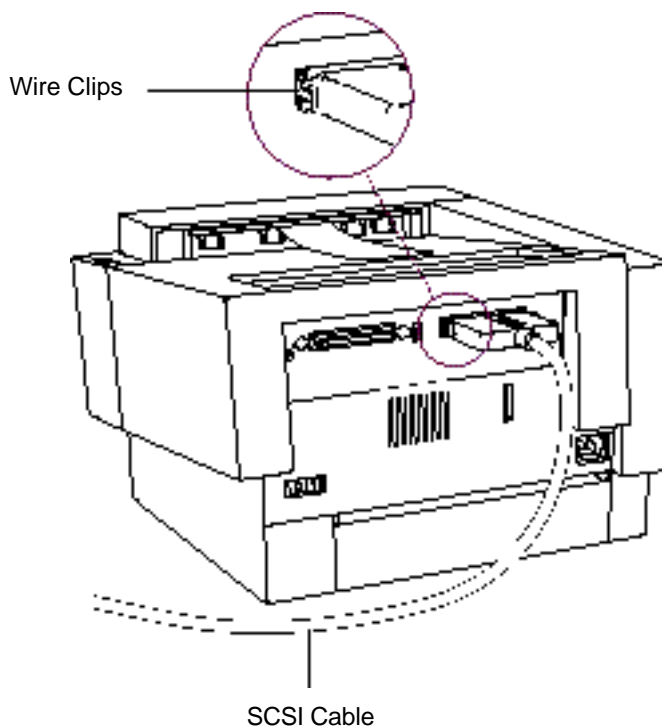

Figure A-3
4. Connect the SCSI cable to the LaserWriter, as Figure A-3 shows.